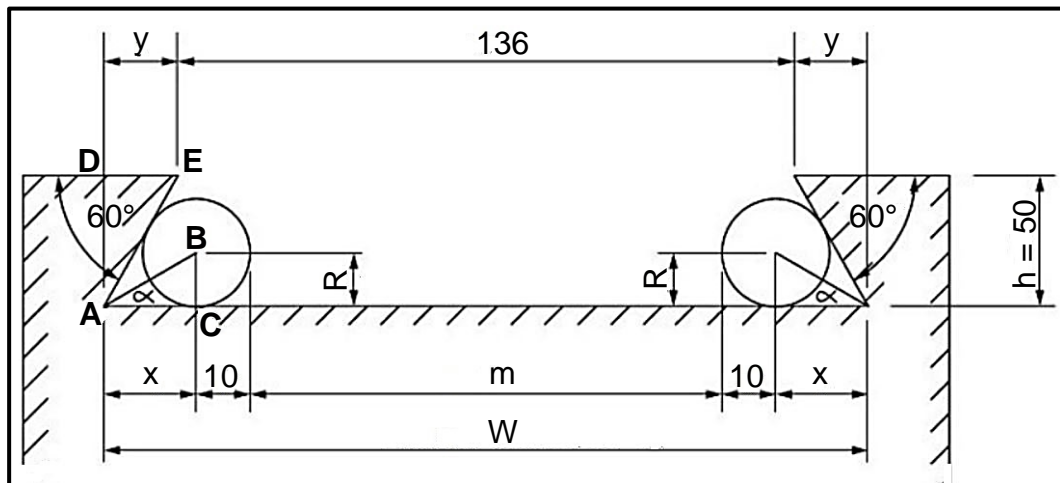

FIGURE 6.2
- 6.2 FIGURE 6.2 below shows an external dovetail component for a machine vice.